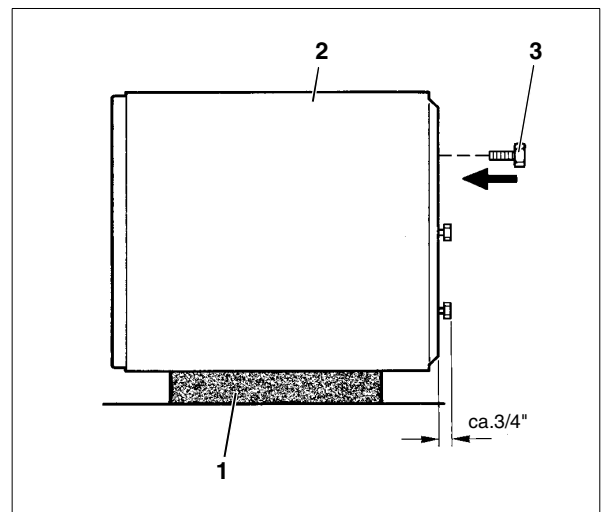

Fig. 3 Tank on top of styrofoam piece
- Remove top styrofoam piece and wooden corner posts. Place tank on its side on top of styrofoam piece.(Fig. 3, **Item. 1**).
- Scew 3 M10x30 bolts in bottom of tank to serve as tank leveling legs.(Fig. 3, **Item. 3**)